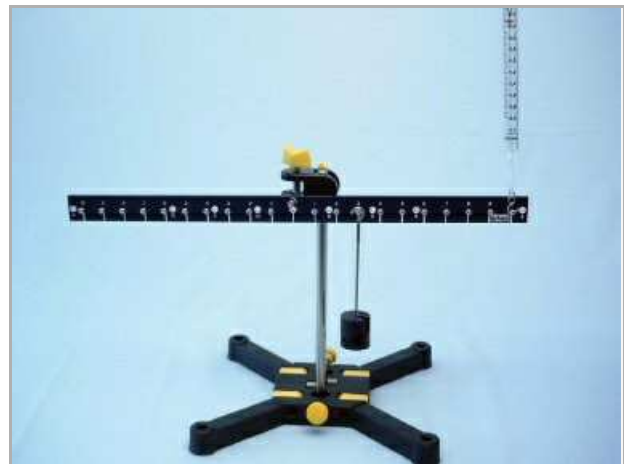

Fig. 7
- Hang the mass successively on the 7, 5, 3 and 1 marks on the right side (Fig. 7) and read the measured value F for each position. Record all the measured values in Table 1 in the report.